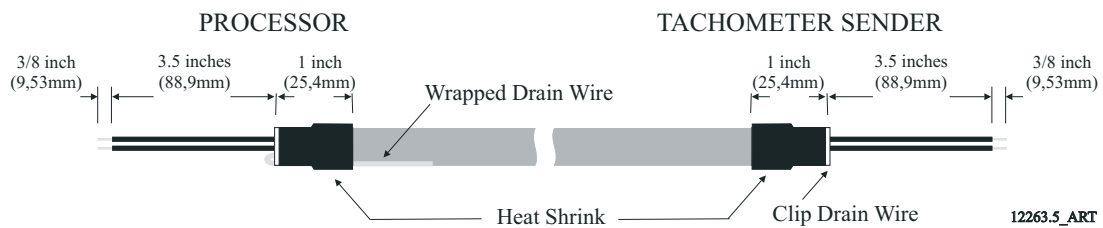
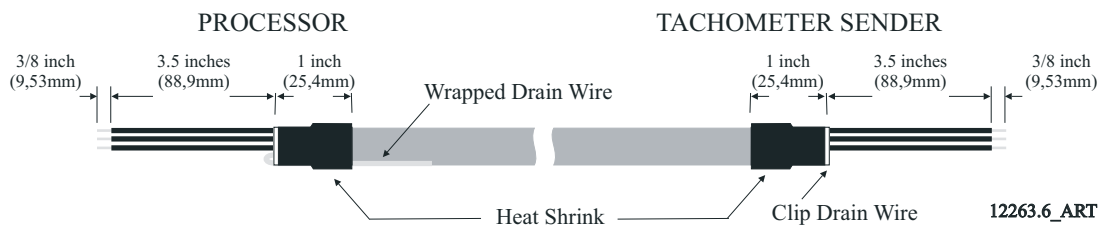

Figure 4-13: AC Type Tachometer Cable
Figure 4-14: Open Collector Tachometer Cable
- Processor side: Bend the drain wire back and tuck it under the shrink tubing so that the drain wire end is exposed past the shrink tubing. (Refer to Figure 4-13: AC Type Tachometer Cable and Figure 4-14: Open Collector Tachometer Cable).